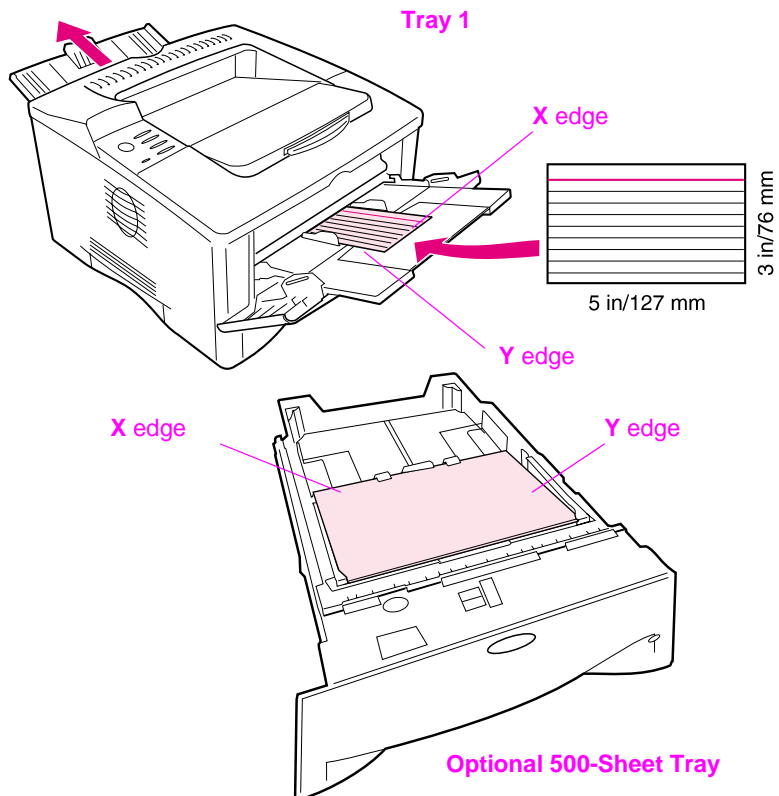

Figure 17 Printing Custom-Size Paper
- 3** From the Printing Menu, set the X dimension (the front edge of the paper) as shown in Figure 17. The X dimension can be 3 to 12.28 inches (76 to 312 mm) for Tray 1 or 8.2 to 11.7 inches (148 to 297 mm) for the 500-sheet tray (optional). Set the Y dimension (the side edge of the paper) as shown in Figure 17. The Y dimension can be 5 to 18.5 inches (127 to 470 mm) for Tray 1 or 5.8 to 17 inches (210 to 432 mm) for the 500-sheet tray (optional).